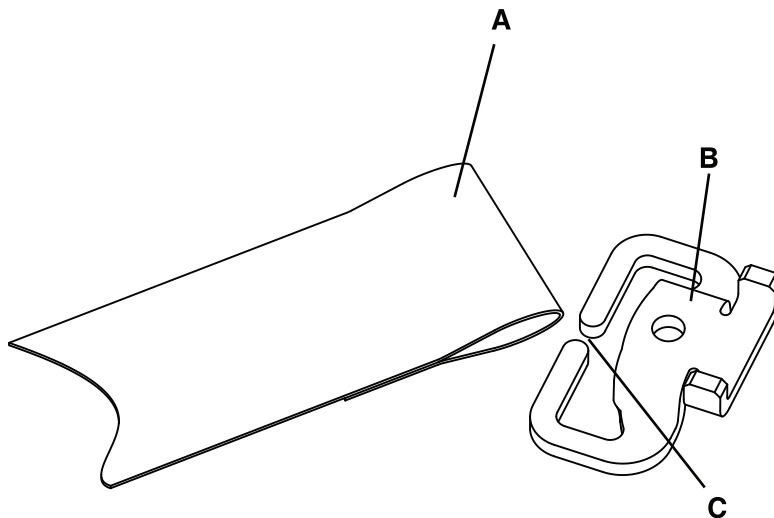

Figure 1-35: Lap belt removal
1. With one hand, grasp the end of the belt attached to the bracket (A). With the other hand, grasp the bracket (B) (Figure 1-35 on page 1-53).
2. Squeeze the belt loop at the bracket and manipulate it through the slot (C) on the bracket to remove the belt (Figure 1-35 on page 1-53). Discard the belt.